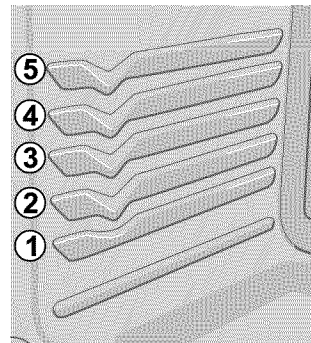
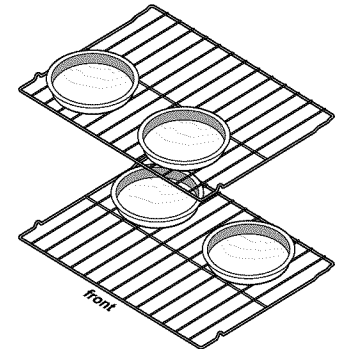

Figure 2
Figure 3
- For best results when baking cakes using two oven racks, place racks in positions 1 and 4 (See figure 2) and position cookware as shown in Figure 3. Allow at least 2 inches (5 cm) of space between cookware for proper air circulation.